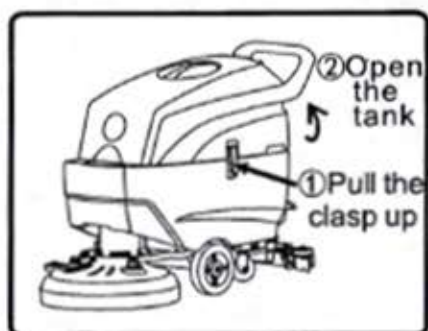
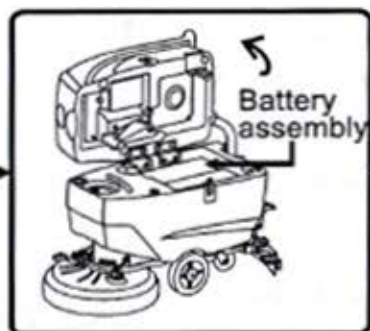

fig.2
fig.3
2. Turn the tank to the floor as shown and put the batteries on top of the assembly plate (fig.2 & fig.3).